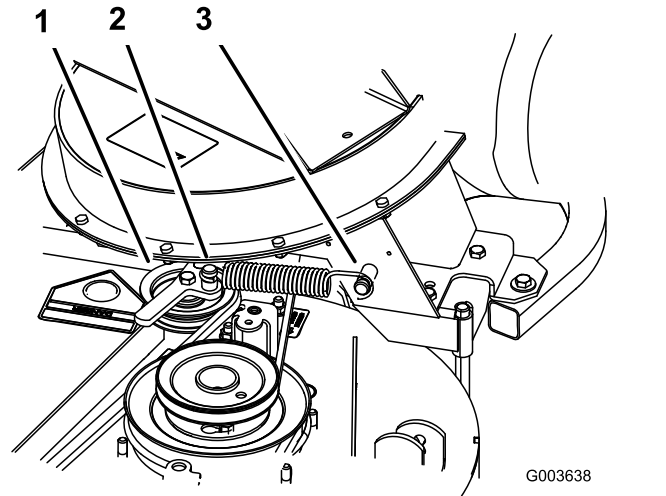

Figure 16
4. Install the spring as shown in Figure 16.